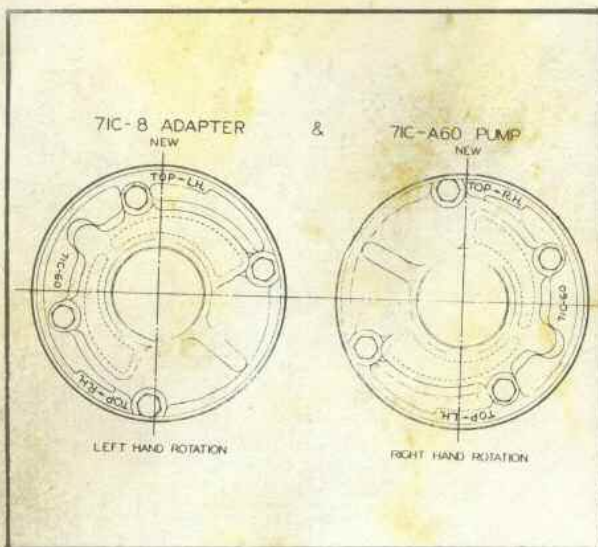

Fig. 68 Orientation Markings for Present 71C-A60 Pump on the 71C-8 Adapter
67. Orient the pump mounting bolt holes and arrow indicating direction of rotation to correspond with the direction of rotation required by the engine, (Fig. 68). If not installed for the proper rotation the pump will not produce oil pressure to operate the transmission when engine is started.